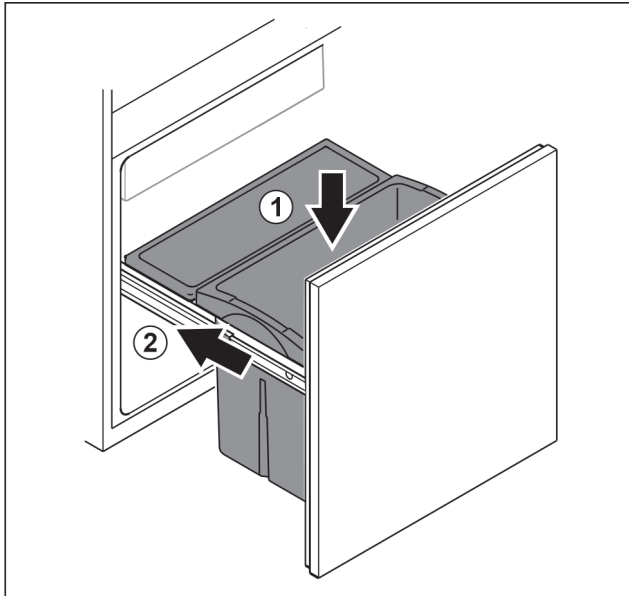

Fig. 154
- ▶ Insert drawer from above. Fig. 154 (1)
- ▶ Slide in pull-out unit. Fig. 154 (2)